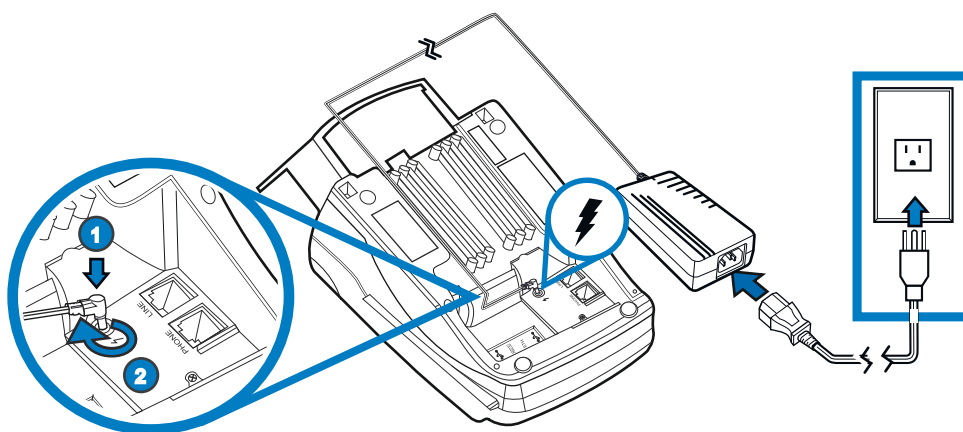

Figure 29 VX 520 Sprocket Power Pack Connection
- 2 Insert the round barrel connector (see Figure 29) into the power port.